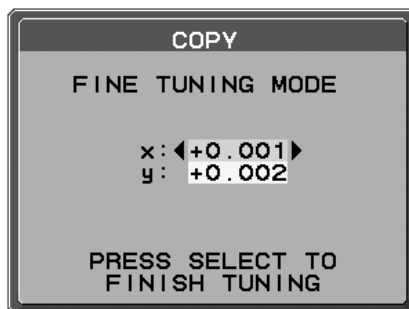

Figure C.8
14. At the FINE TUNING MODE message (**Figure C.8**), press SELECT if the calibration is satisfactory. If the calibration is unsatisfactory, there are two options:
- (A) Manually fine tune the white point using the “LEFT” and “RIGHT” keys.
- (B) Restart the copy, press SELECT and return to Step 3.